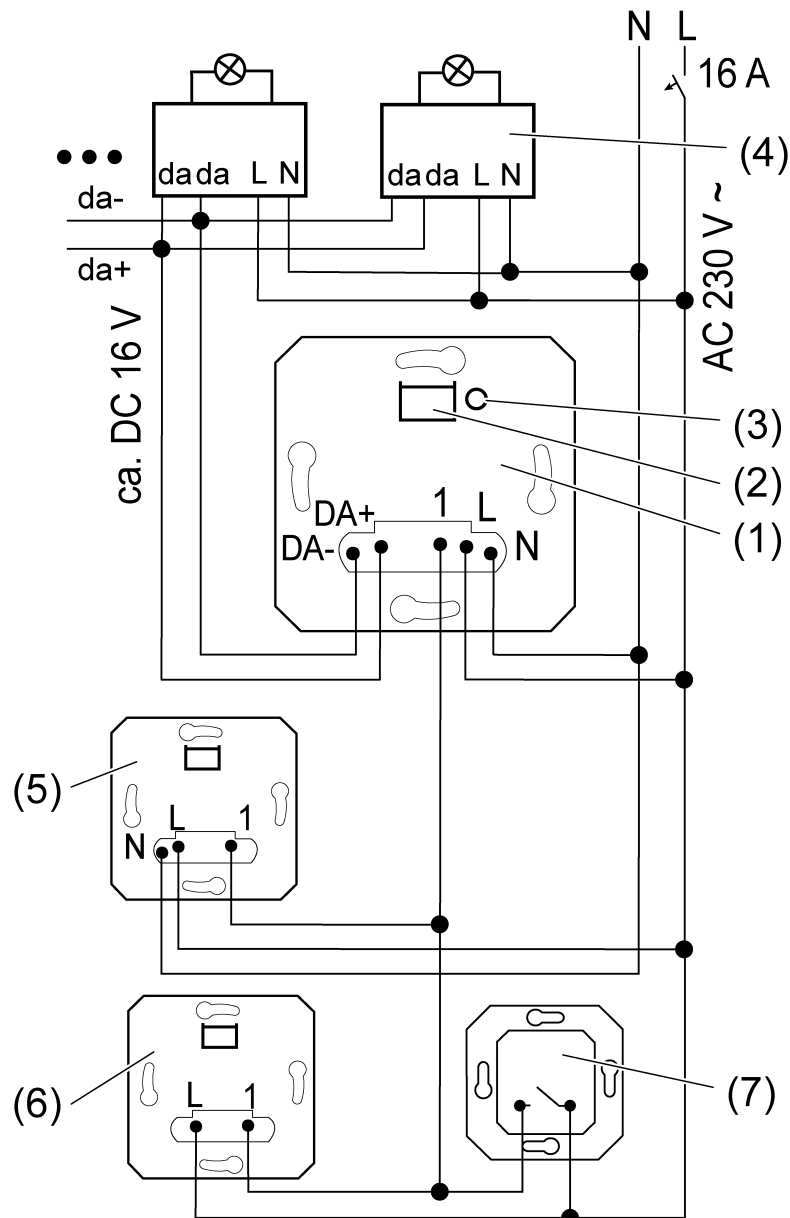

Figure 1: Connection diagram with optional extension units
- Connect the DALI insert (1) and the DALI subscriber (4) according to the connection diagram (see figure 1).
- i** The connected lighting can also be switched without a cover by briefly pressing the Test button (3).